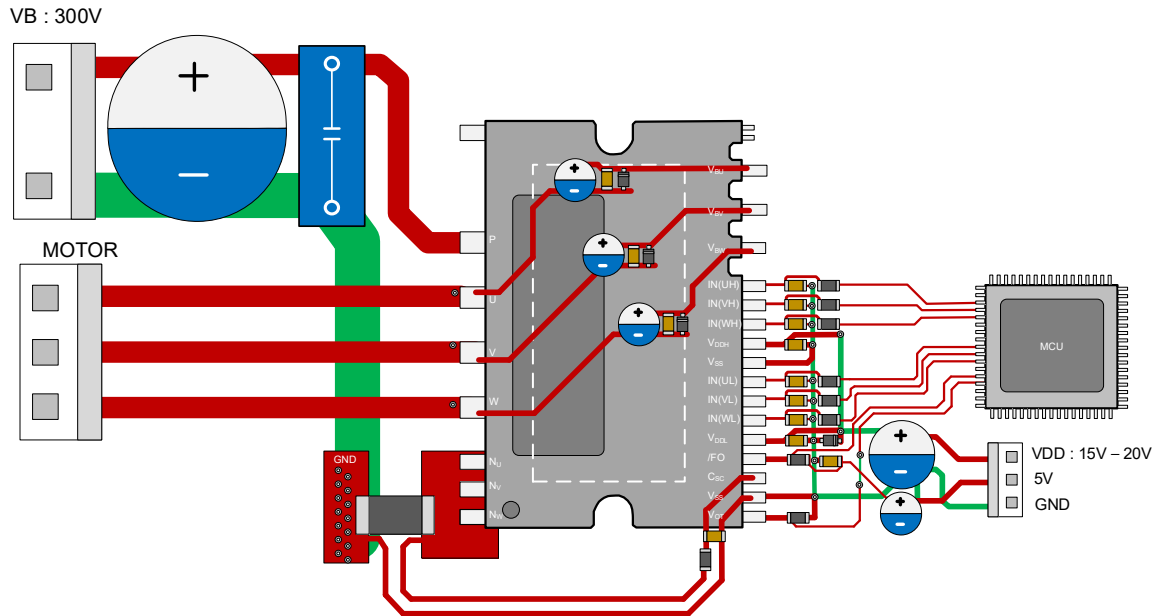

Fig. 32 Layout of Reference Board for 1-shunt Resistor
5. In order to accurately detect the voltage of the current sensing resistor, both sensing and ground patterns should be connected at the pins of the current sensing resistor and should not be overlapped with any patterns for the load current, as shown in Fig. 32.